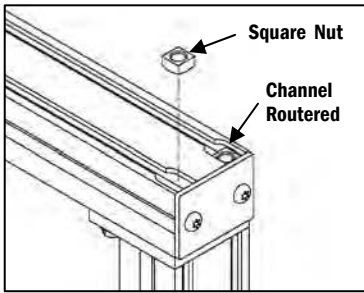

Figure 4
- a. To install, insert one 5/16-18 Square Nut into each channel of the Stand's Top Extrusion (**Figure 4**). The channel has been routered to accommodate the Square Nut.